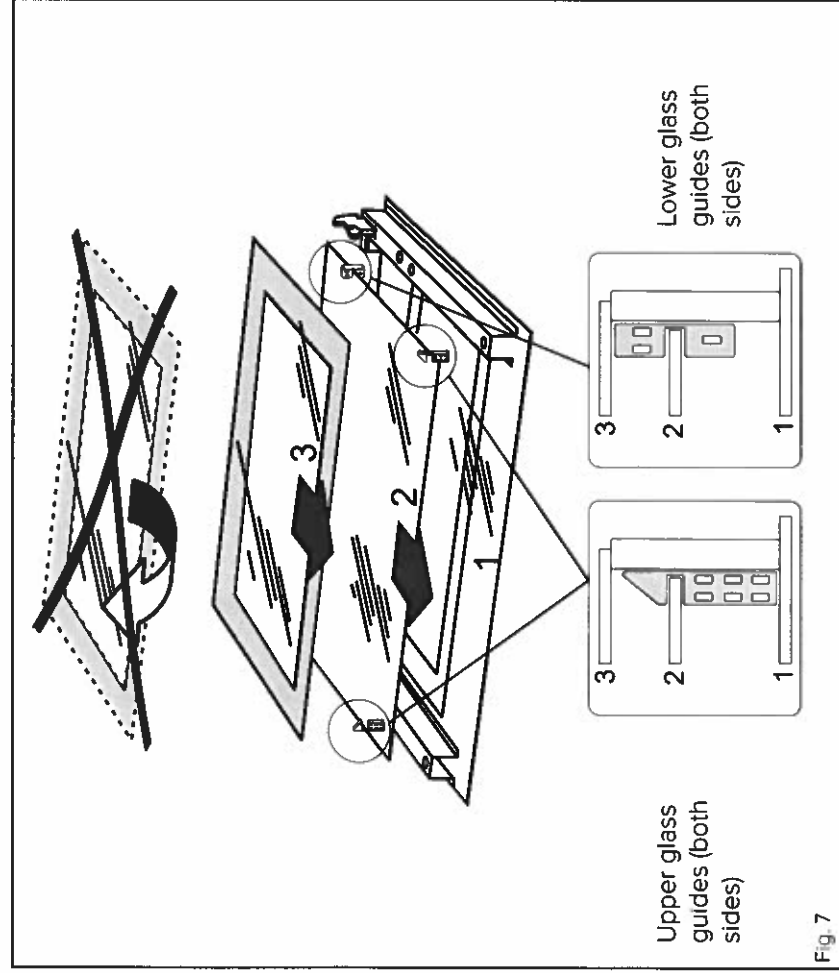

Fig. 7
- There are a number of rubber guides attached to the inner pane and these must be returned to their original positions when reassembling the door. Fig. 7 shows these guides and their position on and around the inner glass.